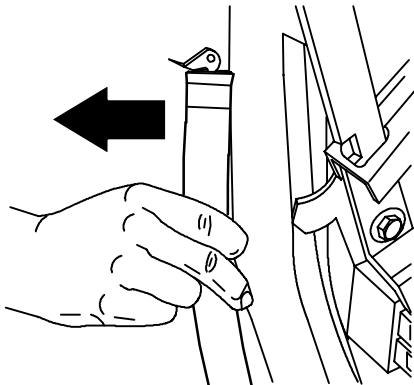

FIG. 48
1. Remove solution tank drain hose from hose clip (Figure 48).